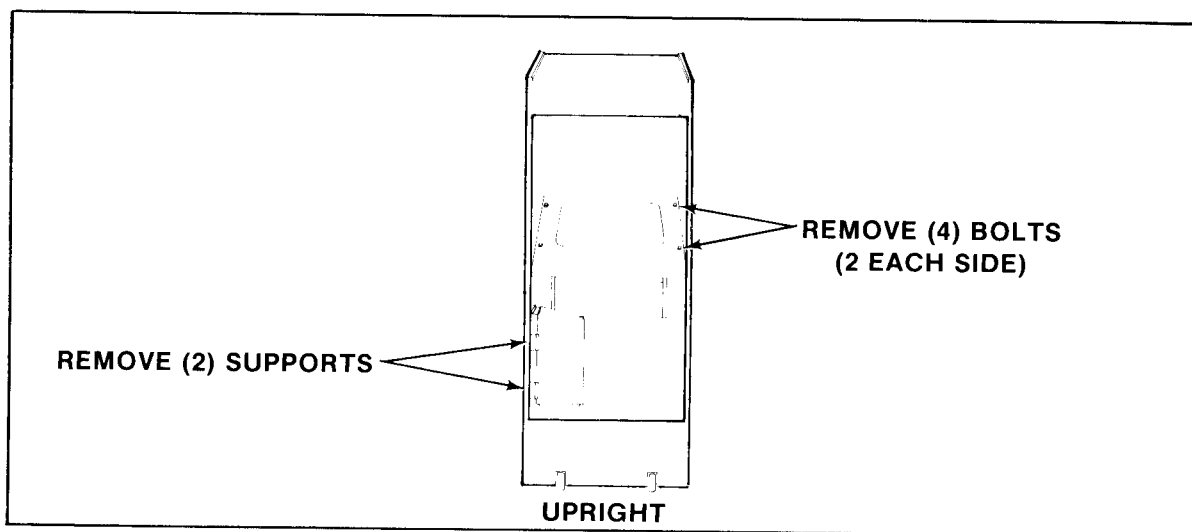

FIGURE 27
1. Upright model — See Figure 27.
- d. Unplug the mother board and daughter board from all their cabling. Remove the short P.C.B. supports indicated in Figure 27 and slide the mother and daughter board assembly out the back of the cabinet. Set them aside. (Otherwise the T.V. monitor chassis would hit the daughter board as it was being slid out the back of the cabinet.)
- g. The monitor mounting board slides on top of and against two wooden guides mounted to the cabinet's right and left sides. The monitor is removed by sliding it out the back of the cabinet. See Figure 27.